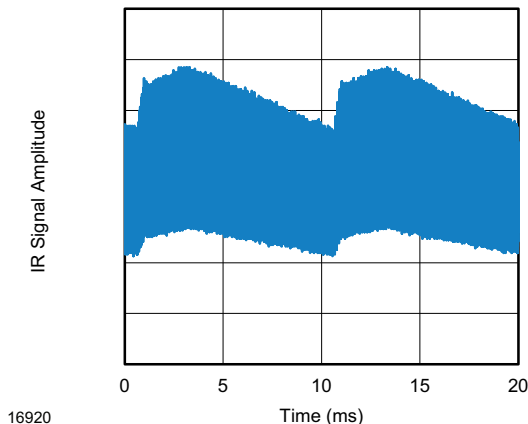
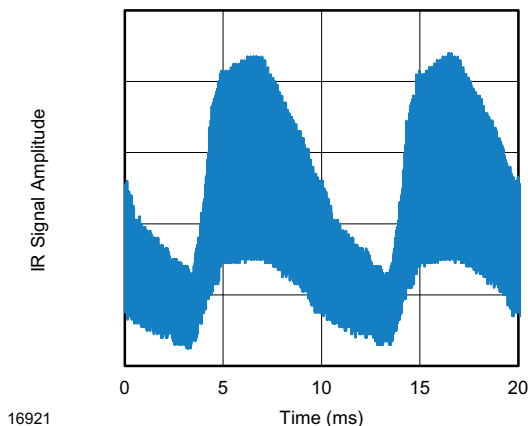

Fig. 13 - IR Signal from Fluorescent Lamp With Low Modulation
Fig. 14 - IR Signal from Fluorescent Lamp With High Modulation
- Strongly or weakly modulated patterns from fluorescent lamps with electronic ballasts (see Fig. 13 or Fig. 14)
| Suppression of interference from fluorescent lamps | Mild and complex disturbance patterns are suppressed (example: signal pattern of Fig. 13 and Fig. 14) | Critical disturbance patterns are suppressed, e.g. highly dimmed LCDs |